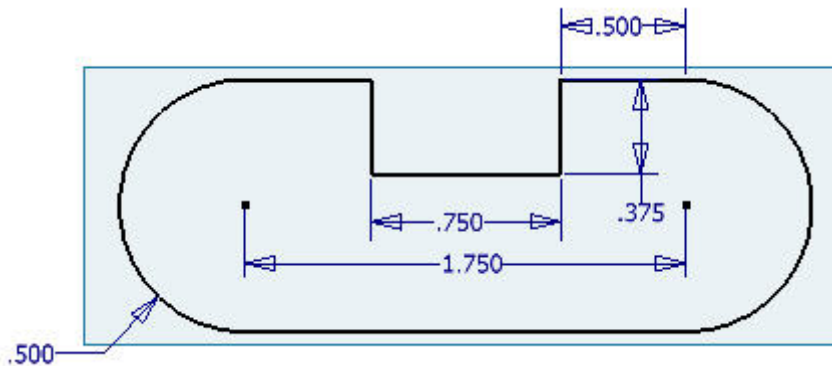

**Figure 2**
2. Click on the plus sign next to origin in the **Model** panel bar as shown in Figure 2. Click the right mouse button over the **XY Plane** and select visibility as shown in Figure 3.